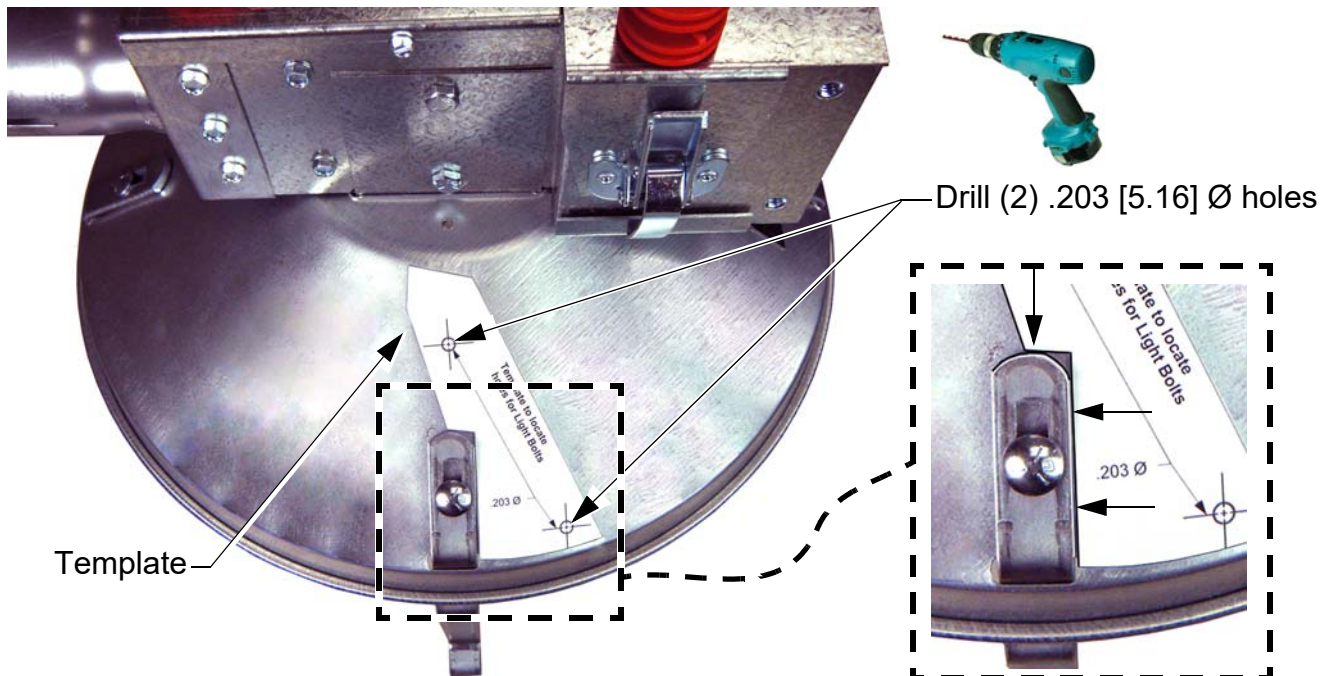

Figure 4. Drilling Light Mounting Holes
- 1.Line up the Light Hole Template as shown in **Figure 4** below.
- 2.Use the Template as a guide to drill (2) $.203\text{Ø}$ [5.16mm] holes.